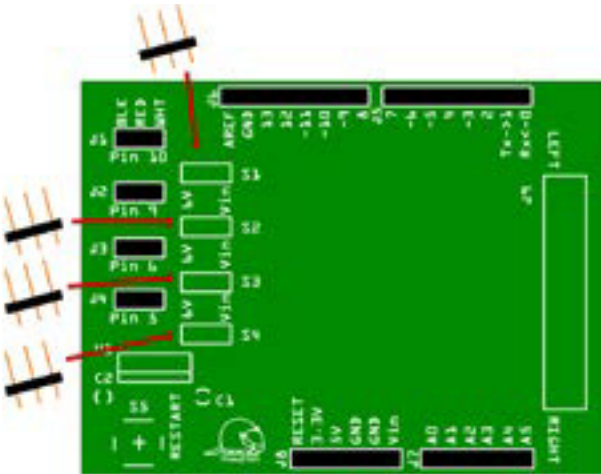

Figure HT3-7. Location to insert female headers
- Insert the four female headers into the top of the circuit through the locations marked J1, J2, J3, and J4, as shown in Figure HT3-7. Solder from the bottom.